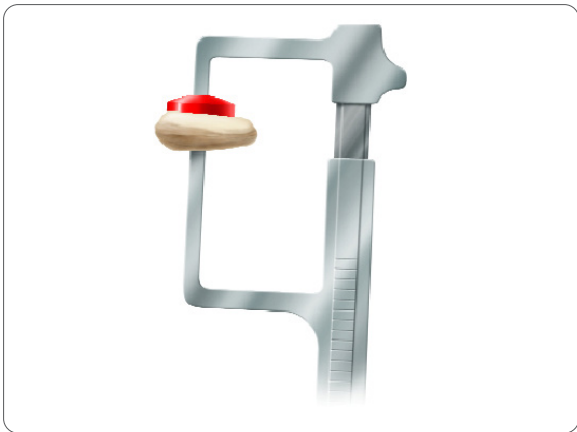

Figure 82
8. Place the patellar trial into the prepared patella. If desired, use the calipers to remeasure the composite thickness of bone and trial (**Figure 82**).